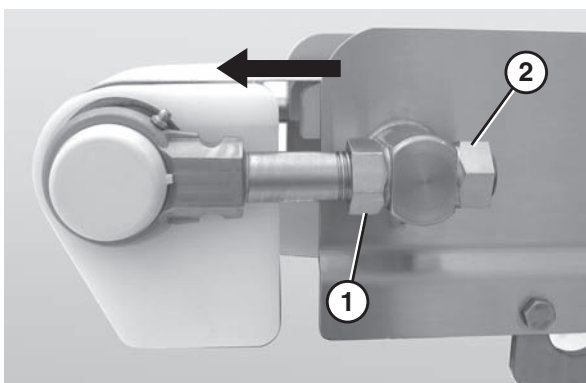

Figure 51
2. Turn the front nuts closest to the tail (**Figure 51, item 1**) clockwise in order to increase tension on the belt.
3. Tighten the back nuts (**Figure 51, item 2**) to secure the tail.
1. Loosen the back nut (**Figure 51, item 2**) on the idler tail shaft that needs to be adjusted.
2. Tighten or loosen the front nut (**Figure 51, item 1**) on the idler tail shaft adjust the belt tracking.